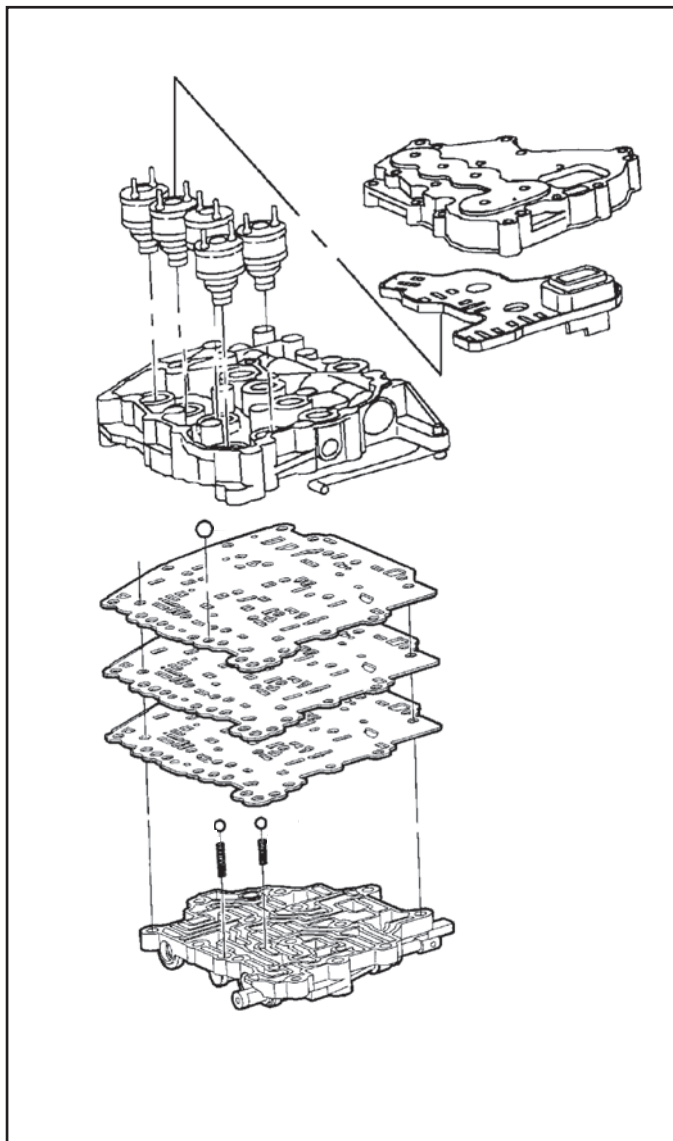

Figure 184
17. Install the actuators into the upper valve body with a slight twisting motion (See Figure 184).
18. Align the actuator pins to the connector plate and install the connector plate (See Figure 184).
19. Place the actuator cover on top of the connector plate (See Figure 184).
22. Assemble the upper valve body assembly to the lower valve body assembly being careful not to misposition the check balls or spacer plate gaskets (See Figure 184).